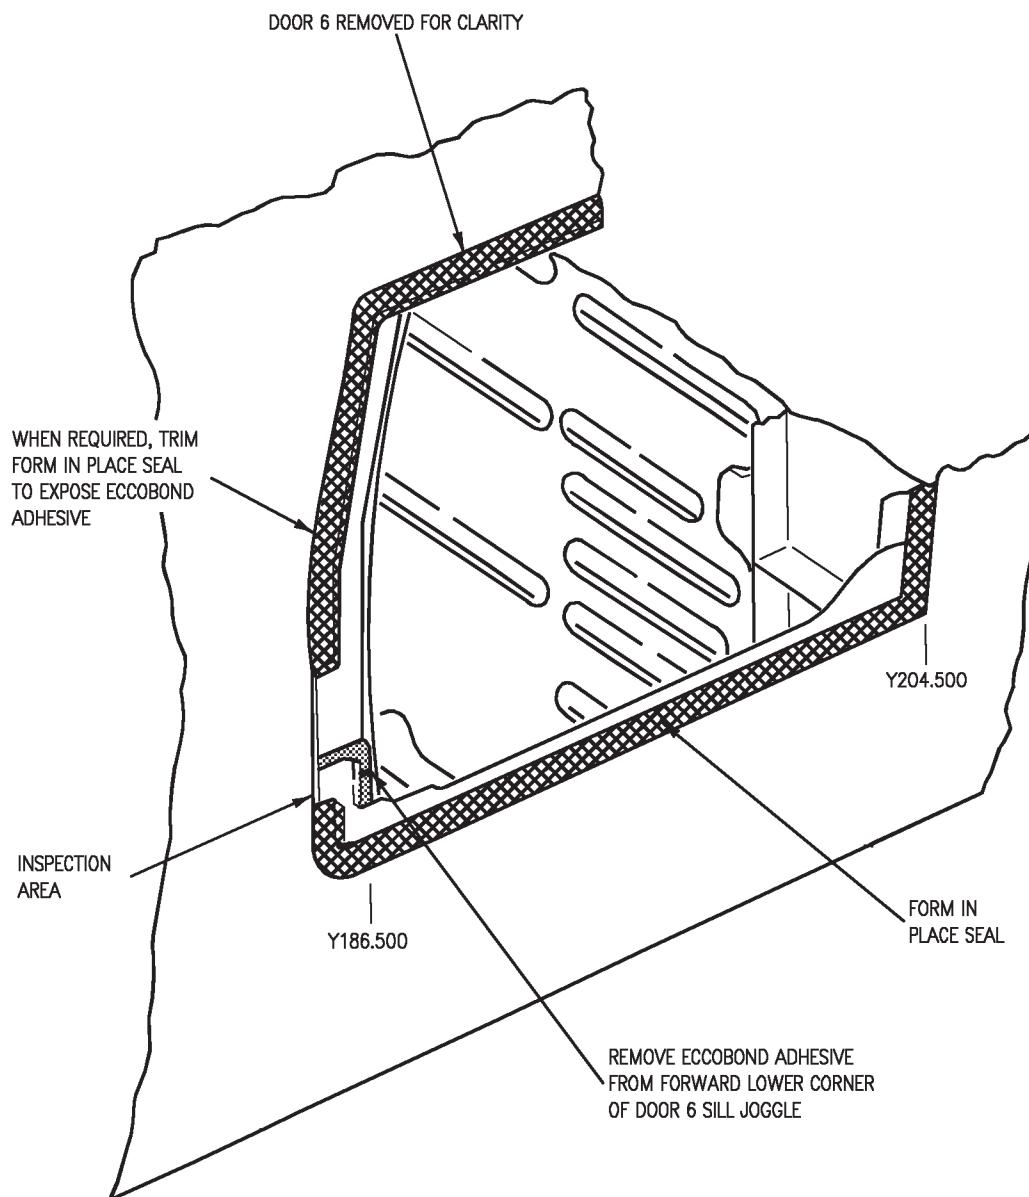

Figure 2. Removal of Eccobond Adhesive From Door 6 Joggle Area
2. Corrosion pitting is being detected on machined 300M high strength steel main landing gear (MLG) axle lever assemblies. Corrosion is caused by damage to the underlying sacrificial anodic paint system and coatings on hard landing NDI inspection areas and areas on forward surfaces. Inspection and/or cleanup are required to prevent stress corrosion cracking and final catastrophic failure. The external surface is IVD aluminum coated or cadmium plated. The finish system is epoxy primer and polyurethane topcoat. The following corrosion removal procedure is intended for main landing gear axle lever, P/N 74A410506-1009/-1010/-1011/-1012. For levers with P/N 74A410506-1005/-1006, contact FST for disposition. For MLG axle lever identification, see figure 2, page 8. For system maintenance of this part, refer to (A1-F18AC-130-300, WP040 00).